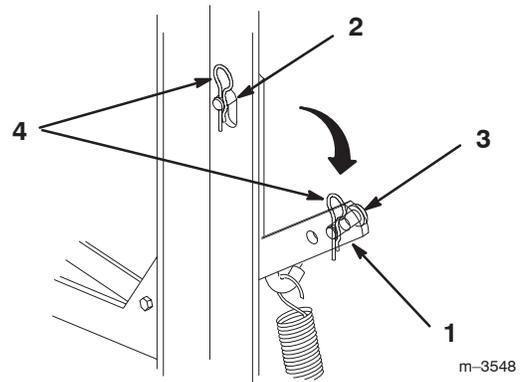

Figure 40
- Push up on the spring loaded idler arm, behind blower on lefthand side of unit, to relax pressure on clevis pin (Fig. 40).
- Remove hairpin cotter and clevis pin from slot in frame and allow idler down, to tension belt (Fig. 40).
- Install hairpin cotter and clevis pin in outer hole of idler arm for storage (Fig. 40).